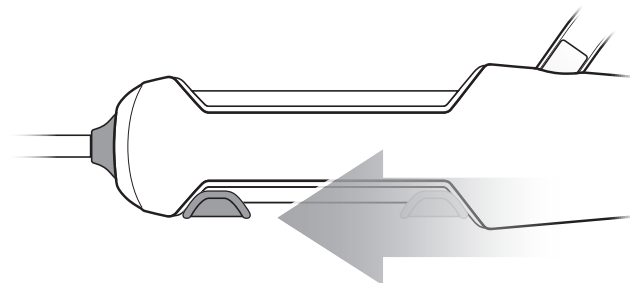

Figure 6
2. Once any remaining residual thrombus has been cleared, sheath the funnel by sliding the button on the handle assembly forward, towards the leading end of the sheath (Figure 6).